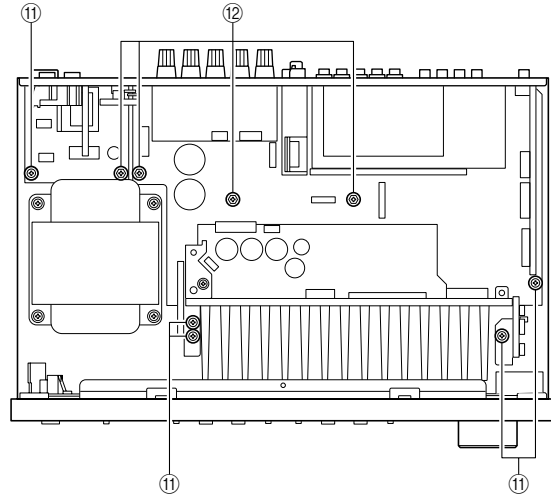

Fig. 4
- c. Remove 5 screw (⑪) and 4 screws (⑫). (Fig. 4)